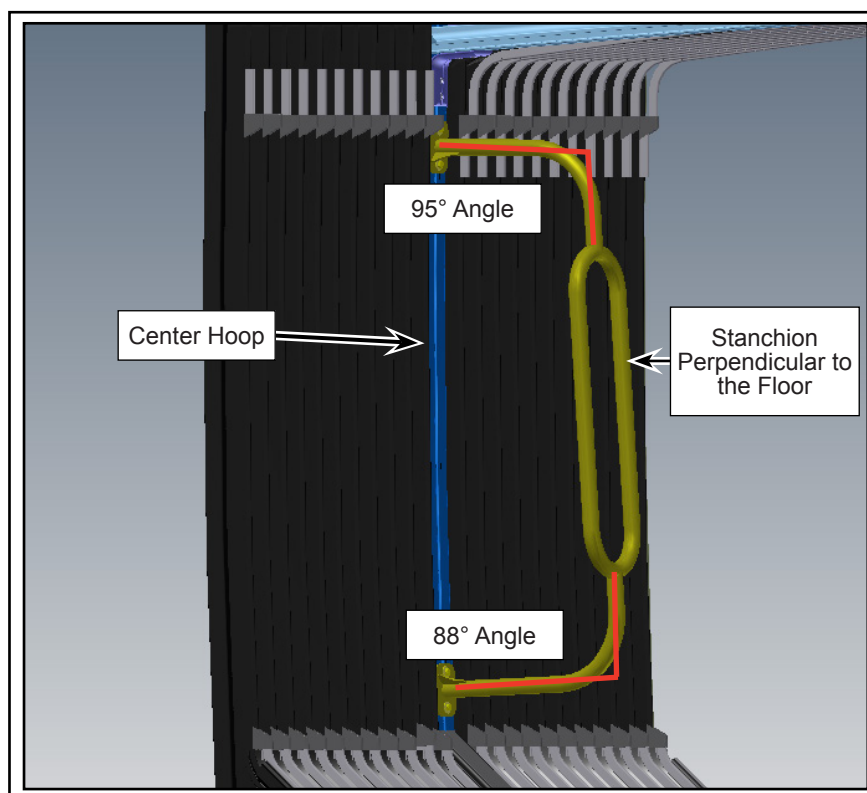

Figure 7 - Typical View of Stanchion Orientation
- 1.10. Ensure that the stanchion on both sides are vertical (perpendicular to the floor) (see Figure 7).